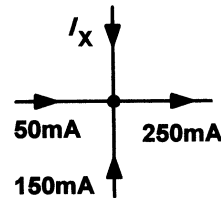

Figure A2.1
7. Figure A2.1 shows a node in a circuit. Determine the value of  $I_X$ . [Page 46]